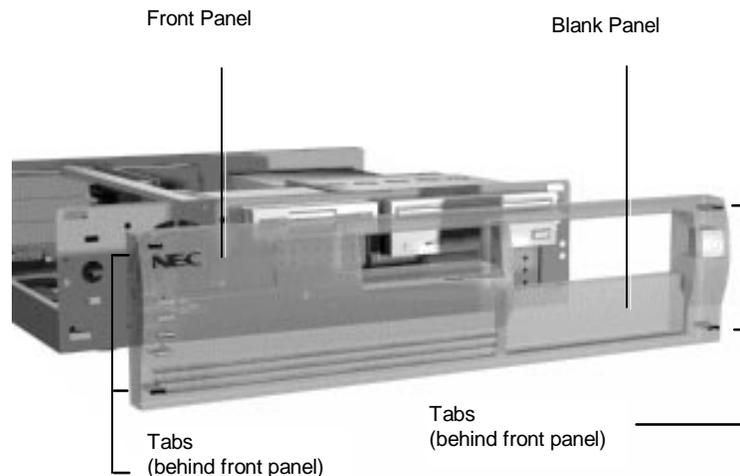

Figure 5-8 Indicator Panel Connectors
2. Unplug the following cables from their connectors (see Figure 5-8).
3. Remove the five front panel screws (see Figure 5-8).